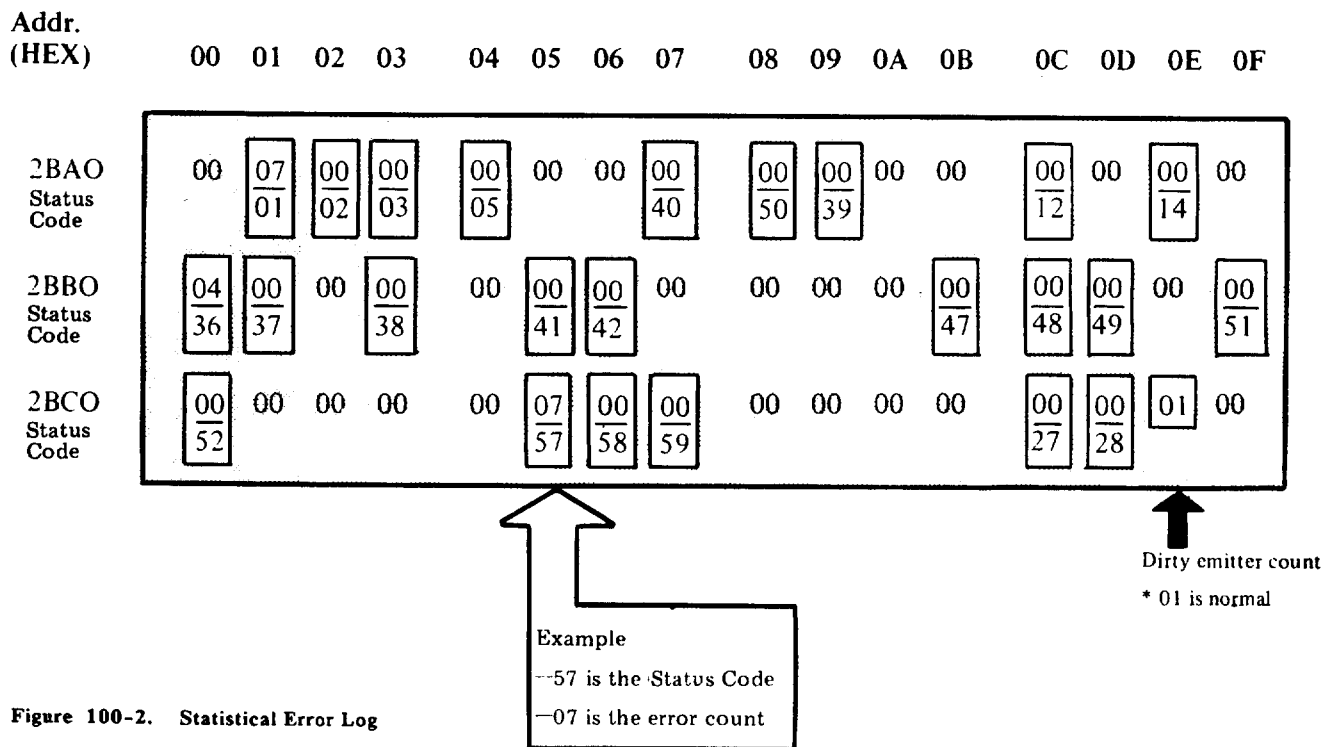

Figure 100-2. Statistical Error Log
2. Scan the printout for "significant" error counts of the Status codes as shown in the sample printout in Figure 100-2 on page 100-4.
Statistical error log data is useful as a starting point for troubleshooting customer-reported intermittent problems. Refer to Figure 100-2 and notice that certain counters log the number of times that an error occurred for a particular Status code.
Examine any Test Key printouts available, and use Figure 100-2 below to determine the type and number of status code failures the printer has had.